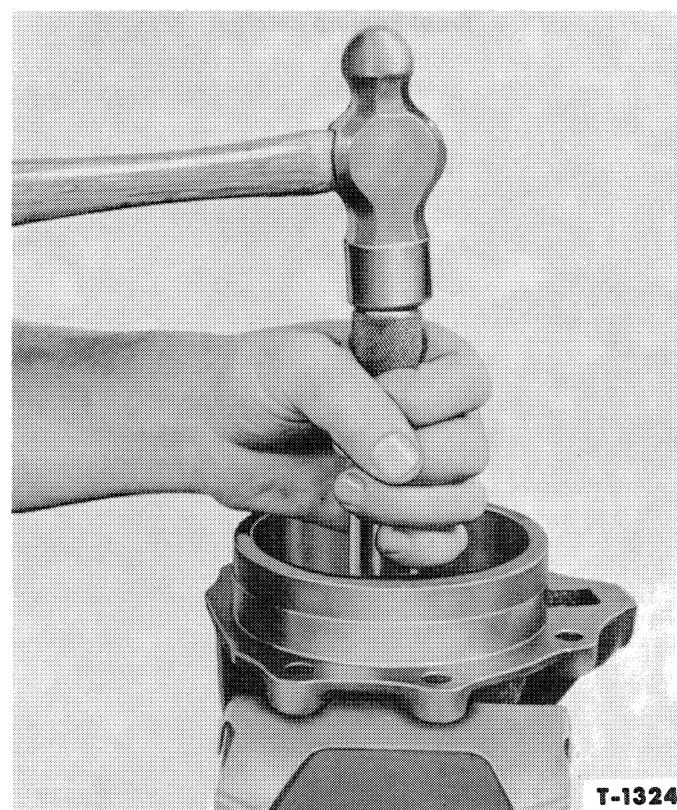

Figure 23—Installing Oil Seal in Output Shaft Bearing Retainer
3. Coat the wiping surface of the new oil seal with Lubriplate or equivalent and press the seal into the retainer with Step Plate 630-9, Figure 23.